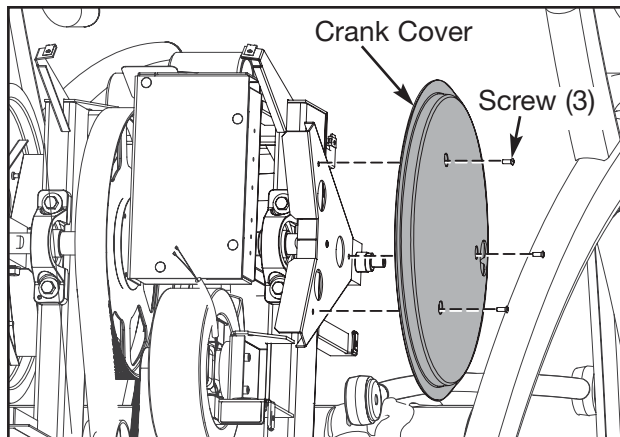

Figure 6
- A. Using a Phillips head screwdriver, remove the three screws securing each crank cover in place. See Figure 6.
- B. Using a Phillips head screwdriver, attach the three screws securing each crank cover in place. See Figure 6.
- A. Using a Phillips head screwdriver, remove the three screws securing the left crank cover in place. See Figure 6.